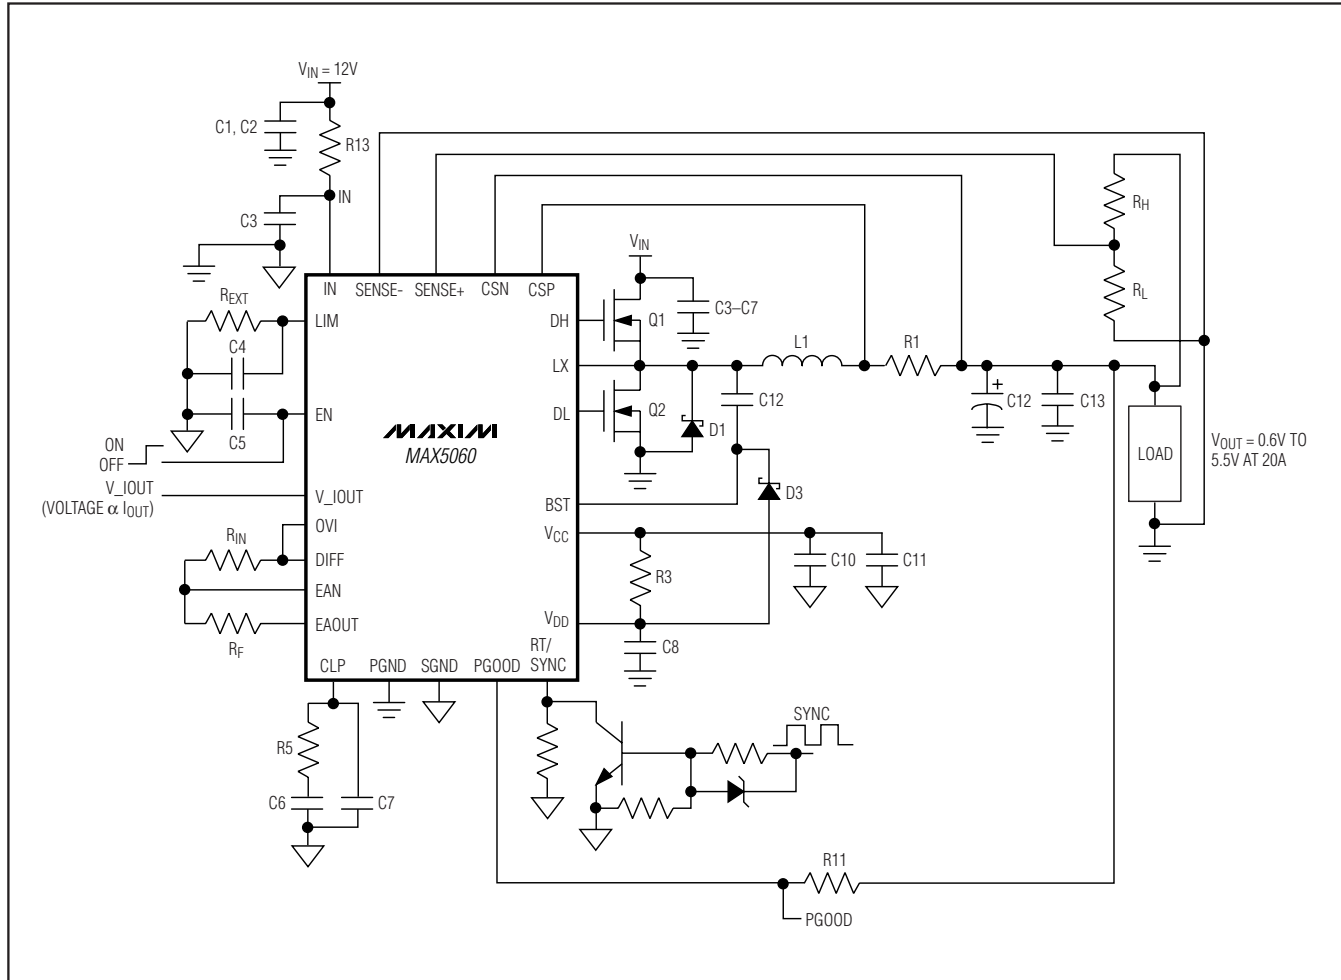

Figure 1. Typical Application Circuit, $V_{IN} = 12V$ (MAX5060)
($T_A = +25^\circ\text{C}$, Figures 1 and 2, unless otherwise noted.)
Use an open-collector transistor to synchronize the MAX5060/MAX5061 with the external system clock (see Figures 1 and 2).
The VEA output clamps to 930mV relative to the internally generated common-mode voltage (V_{CM} , 0.6V), thus limiting the maximum output current. The maximum average current-limit threshold is equal to the maximum clamp voltage of the VEA divided by the gain (34.5) of the current-sense amplifier. This results in accurate settings for the average maximum current for each phase. Set the VEA gain using R_F and R_{IN} (see Figures 1 and 2) for the amount of output voltage positioning required within the rated current range as discussed in the *Adaptive Voltage Positioning* section. The finite gain of the VEA introduces an error in the output voltage setting. Use the following equation to calculate the output voltage at no load condition.
The high-side (DH) and low-side (DL) drivers drive the gates of external n-channel MOSFETs (Figures 1 and 2). The drivers' 4A peak sink- and source-current capability provides ample drive for the fast rise and fall times of the switching MOSFETs. Faster rise and fall times result in reduced cross-conduction losses. For modern CPU voltage-regulating module applications, where the duty cycle is less than 50%, choose high-side MOSFETs (Q1) with a moderate $R_{DS(ON)}$ and a very low gate charge. Choose low-side MOSFETs (Q2) with very low $R_{DS(ON)}$ and moderate gate charge. Size the high-side and low-side MOSFETs to handle the peak and RMS currents during overload conditions.
The hiccup current limit overrides the average current limit. The MAX5060/MAX5061 include hiccup current-limit protection to reduce the power dissipation during a fault condition. The hiccup current-limit circuit derives inductor current information from the output of the current amplifier. This signal is compared against one half of V_{CLAMP(EA)}. With no resistor connected from the LIM pin to ground, the hiccup current limit is set at 90% of the full-load average current limit. Use R_{EXT} to increase the hiccup current limit from 90% to 100% of the full-load average limit (see Figures 1 and 2). The hiccup current limit can be disabled by connecting LIM to SGND. In this case, the circuit will follow the average current-limit action during overload conditions.